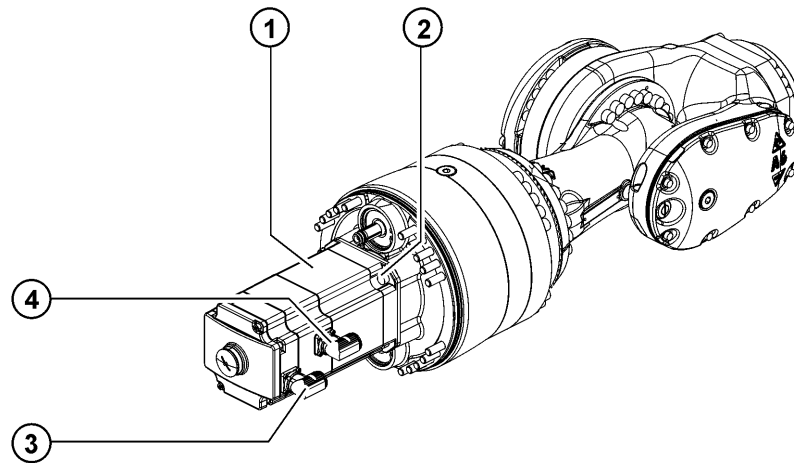

Fig. 11-17: Removing motor A6
1. Remove 4 Allen screws (>>> Fig. 11-17).